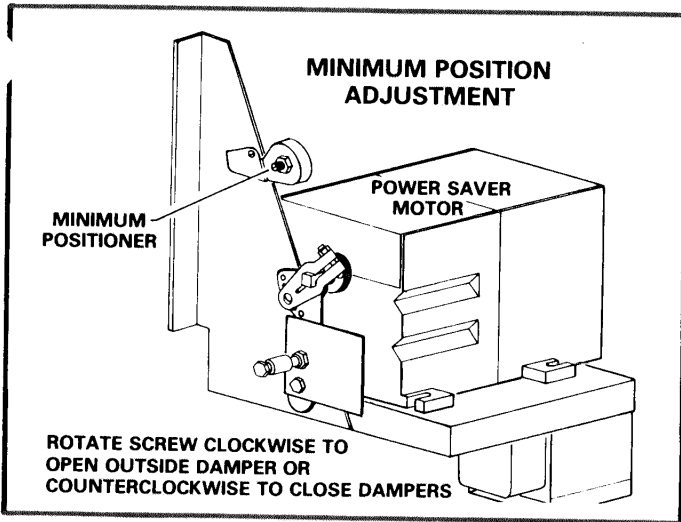

FIGURE 16
- 2 - Rotate screw clockwise to open dampers or counterclockwise to close dampers. Refer to Figure 16. See chart in the unit service manual for percentage of fresh air versus dimensional opening of blade at system static pressure.